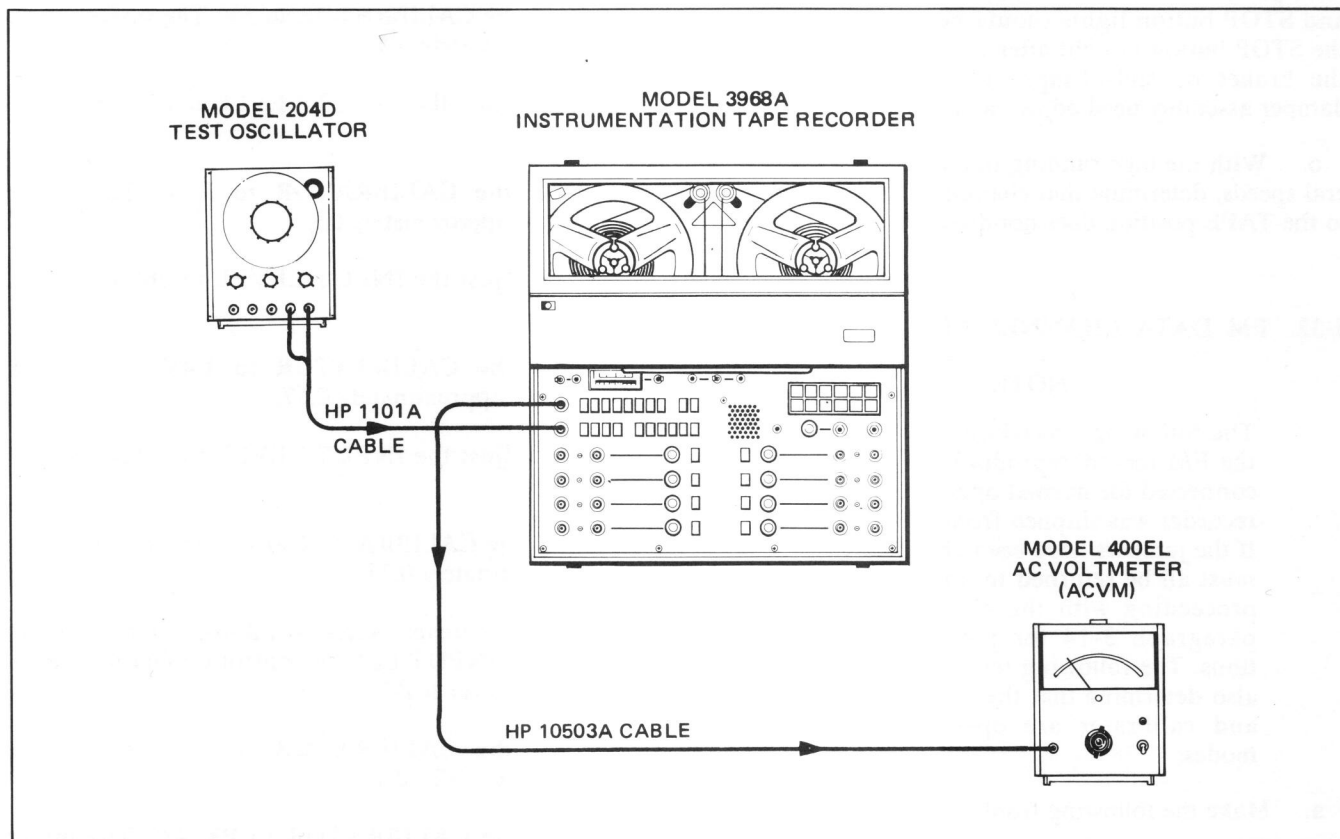

Figure 5-2. FM and DIRECT Test Setup
q. Make following connections on front panel (see Figure 5-2):
1. Connect ACVM to OUTPUT MONITOR jack (see Figure 5-2). Set range to 1V (0 dB).